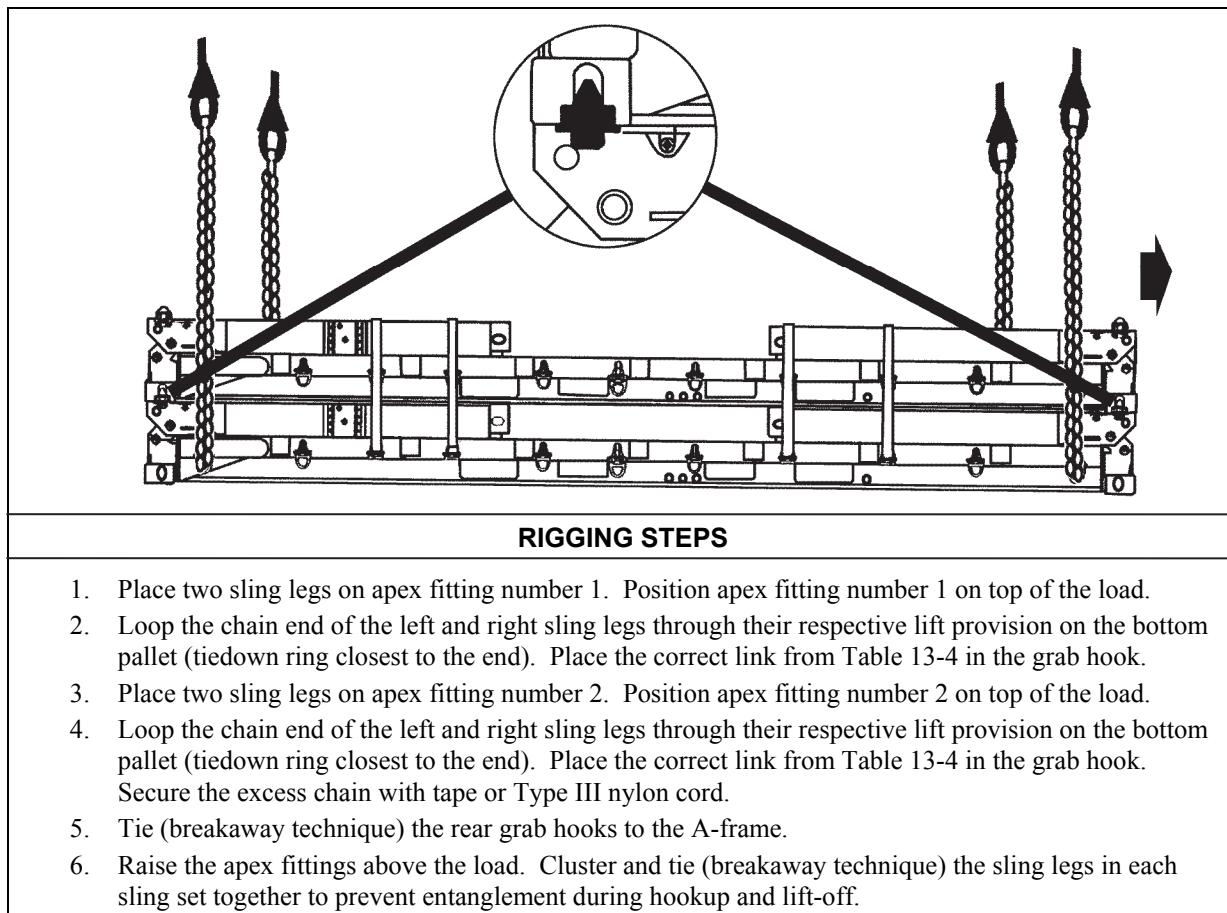

Figure 13-4. Enhanced Palletized Loading System, Flatrack, Empty
- **Rigging.** Rig the load according to the steps in Figure 13-4.